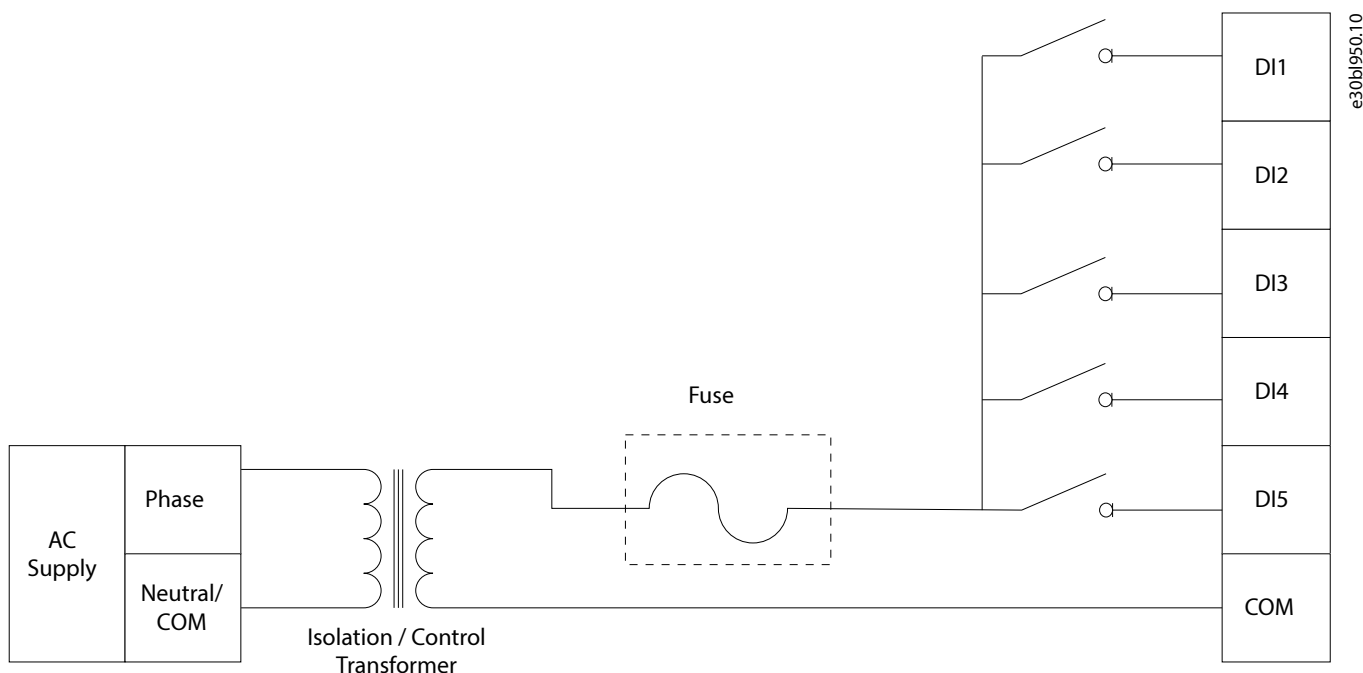

Figure 55: Wiring Configuration for Operation above 2000 m (6560 ft) Altitude using 5 Inputs and a Control Transformer
- All 5 inputs can be used, if the supply is from auxiliary supply and not from mains. In this case, a control transformer must be used between the power supply and the digital inputs. See Figure 55.